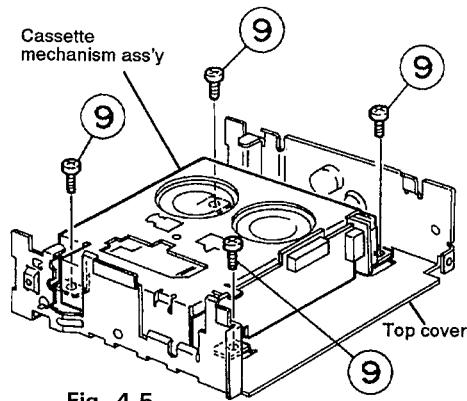

Fig. 4-5
- ◆ Mechanism assembly (See Fig. 4-5)